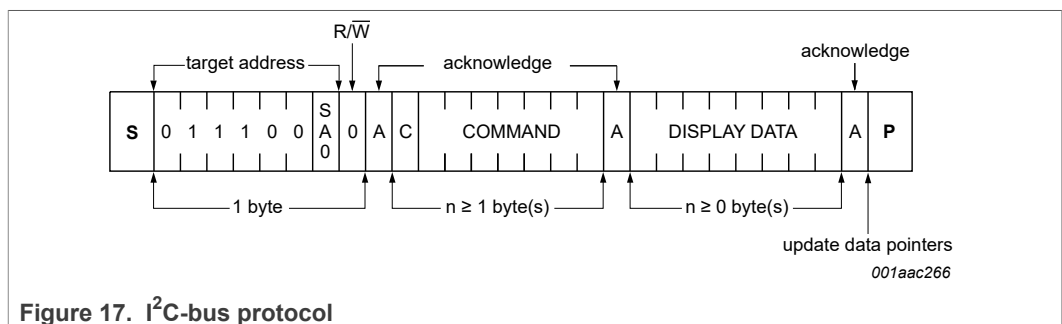

Figure 17. I²C-bus protocol
The I²C-bus protocol is shown in Figure 17. The sequence is initiated with a START condition (S) from the I²C-bus controller which is followed by one of two possible PCF8562 target addresses available. All PCF8562s whose SA0 inputs correspond to bit 0 of the target address respond by asserting an acknowledge in parallel. This I²C-bus transfer is ignored by all PCF8562s whose SA0 inputs are set to the alternative level.